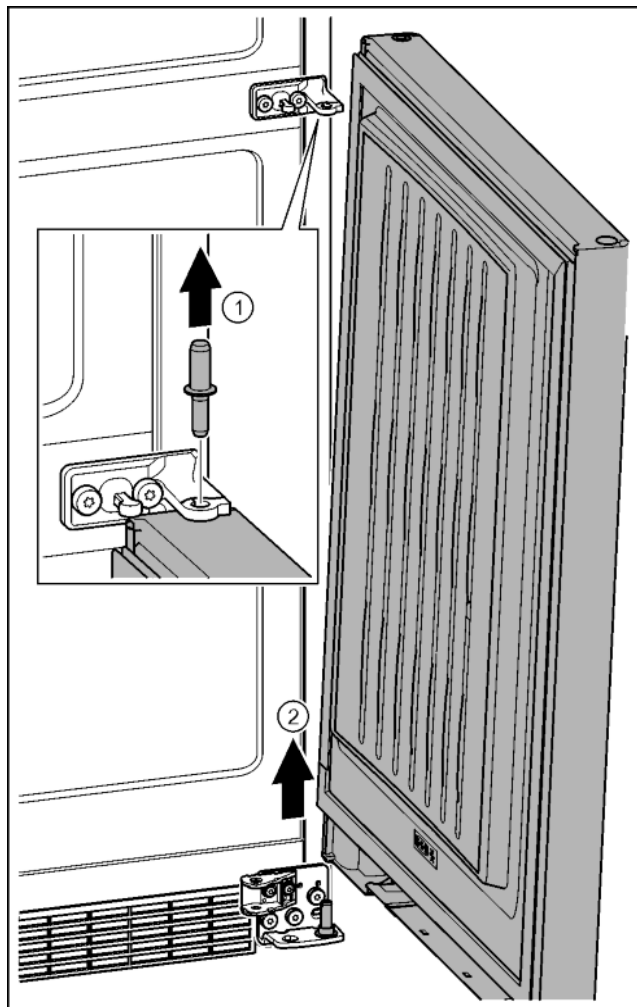

Fig. 22
- Pull out the bolts towards the top. *Fig. 22 (1)*
- Swing the door out, pull it upwards and set it aside. *Fig. 22 (2)*